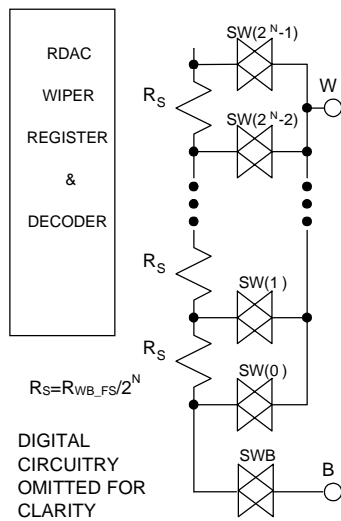

Figure 9. Equivalent RDAC structure
The 10-bit data word in the RDAC latch is decoded to select one of the 1024 possible settings. The following discussion describes the calculation of resistance R_{WB}(D) at different codes of a 25KΩ part. The wiper first connection starts at the B terminal for data 000_H. R_{WB} is 50Ω because of the wiper resistance and it is independent to the full-scale resistance. The second connection is the first tap point where R_{WB}(1) becomes 24.4Ω+50=74.4Ω for data 01_H. The third connection is the next tap point representing R_{WB}(2)=48.8+50=98.8Ω for data 02_H and so on. Each LSB data value increase moves the wiper up the resistor ladder until the last tap point is reached at R_{WB}(1023)=25026Ω. See Figure 9 for a simplified diagram of the equivalent RDAC circuit.